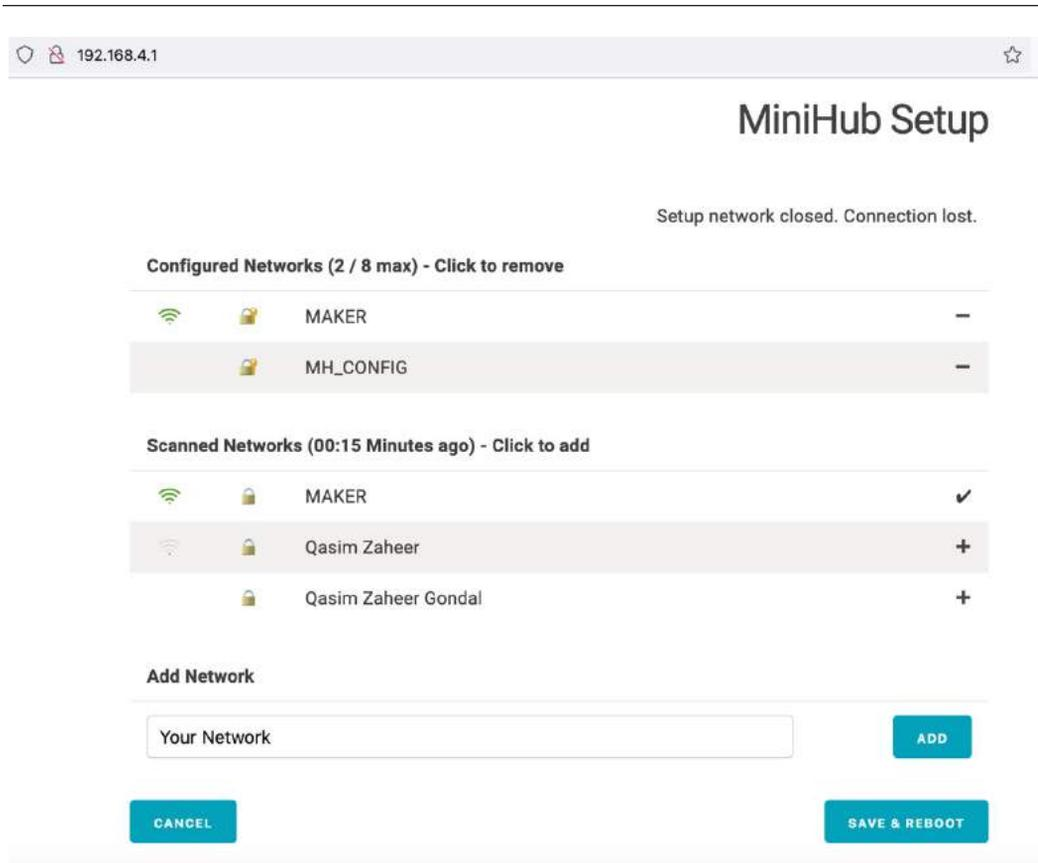

Figure 6.17 – The Things Indoor Gateway setup page
2. Select the Wi-Fi network of your the The Things Indoor Gateway, and connect to it. The Wi-Fi password is written on the back of the device. *Figure 6.17* shows the **Setup** page for the The Things Indoor Gateway.